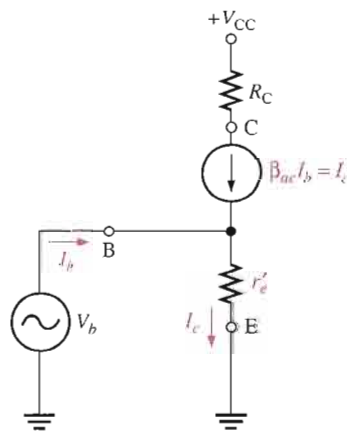

FIGURE 6–12
The ac equivalent circuit for the common-emitter amplifier in Figure 6–8 is shown in Figure 6–10(a). Notice that both R_C and R_1 have one end connected to ac ground because, in the actual circuit, they are connected to V_{CC} which is, in effect, ac ground.
AC equivalent circuit for the amplifier in Figure 6–8.
In ac analysis, the ac ground and the actual ground are treated as the same point electrically. The amplifier in Figure 6–8 is a common-emitter type because the bypass capacitor C_2 keeps the emitter at ac ground. Ground is the common point in the circuit.
Signal (AC) Voltage at the Base An ac voltage source is shown connected to the input in Figure 6–10(b). If the internal resistance of the ac source is $0\ \Omega$, then all of the source voltage appears at the base terminal. If, however, the ac source has a nonzero internal resistance, then three factors must be taken into account in determining the actual signal voltage at the base. These are the *source resistance* (R_s), the *bias resistance* ($R_1 \parallel R_2$), and the *input resistance* at the base of the transistor ($R_{in(base)}$), (some prefer to use the term *impedance*). This is illustrated in Figure 6–11(a) and is simplified by combining R_1 , R_2 , and $R_{in(base)}$ in parallel to get the total **input resistance**, $R_{in(tot)}$, which is the resistance “seen” by a source connected to the input, as shown in Figure 6–11(b). The total input resistance is expressed by the following formula:
Input Resistance at the Base To develop an expression for the input resistance looking in at the base, we will use the simplified r -parameter model of the transistor. Figure 6–12 shows the transistor connected with the external collector resistor, R_C . The input resistance looking in at the base is
Determine the signal voltage at the base of the transistor in Figure 6–13. This circuit is the ac equivalent of the amplifier in Figure 6–8 with a 10 mV rms, 300 Ω signal source. I_E was previously found to be 3.80 mA.